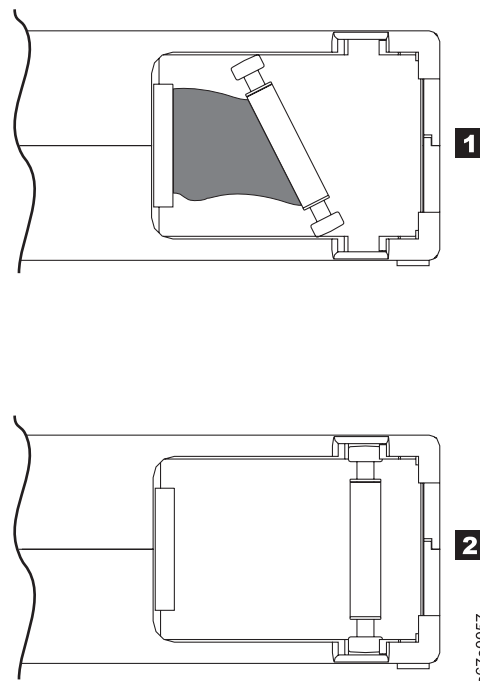

Figure 18. Leader pin in the incorrect and correct positions. The cartridge door is open and the leader pin is visible inside the cartridge.
- Check that the leader pin is properly seated (see **2** in Figure 18 on page 61).
- Do not drop the cartridge. If the cartridge drops, slide the cartridge door back and ensure that the leader pin is properly seated in the pin-retaining spring clips (see **2** in Figure 18 on page 61). If the leader pin has become dislodged, go to “Repositioning or Reattaching a Leader Pin” on page 61.
### Example: Improper Placement of Leader Pin (see Figure 18 on page 61)
A leader pin that is improperly seated inside a cartridge can interfere with the operation of the drive. Figure 18 shows a leader pin in the incorrect **1** and correct **2** positions.